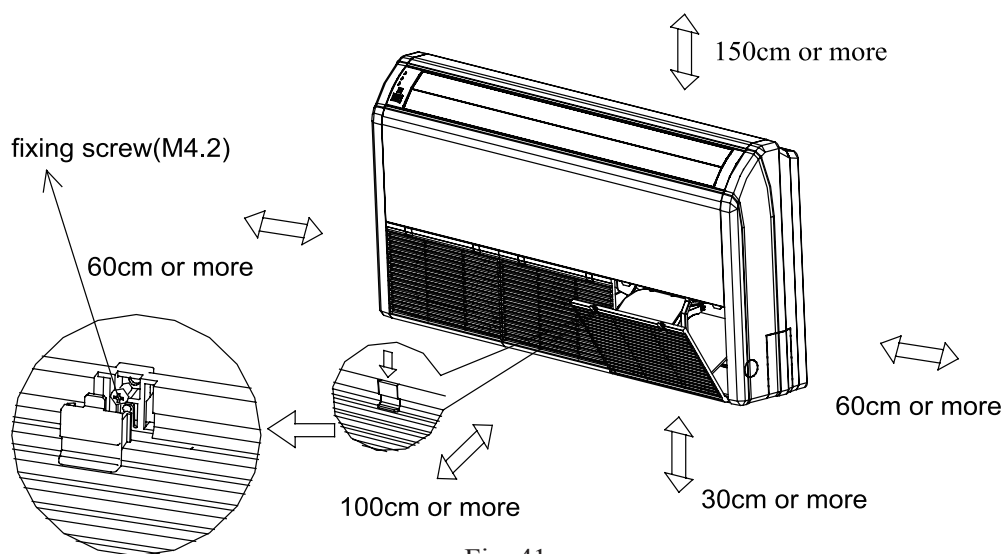

Fig. 41
- ① Such a place where cool air can be distributed throughout the room.
- ② Such a place where condensation water is easily drained out.
- ③ Such a place that can handle the weight of indoor unit.
- ④ Such a place which has easy access for maintenance.
- ⑤ Such a place where is easy to connect the outdoor unit.
- ⑥ Such a place which is 1m or more away from other electric appliances such as television, audio device, etc.
- ⑦ Avoid a location where there is heat source, high humidity or inflammable gas.
- ⑧ Do not use the unit in the immediate surroundings of a laundry, a bath, a shower or a swimming pool.
- ⑨ Ensure that the installation conforms to the installation dimension diagram.
- ⑩ A space around the unit is adequate for ventilation (See Fig.41)
- ① Press the fixing knob of the return grilles and Loosen fixing bolts (M4.2). It will be opened widely, and then pull it out from the indoor unit.(See Fig.41)